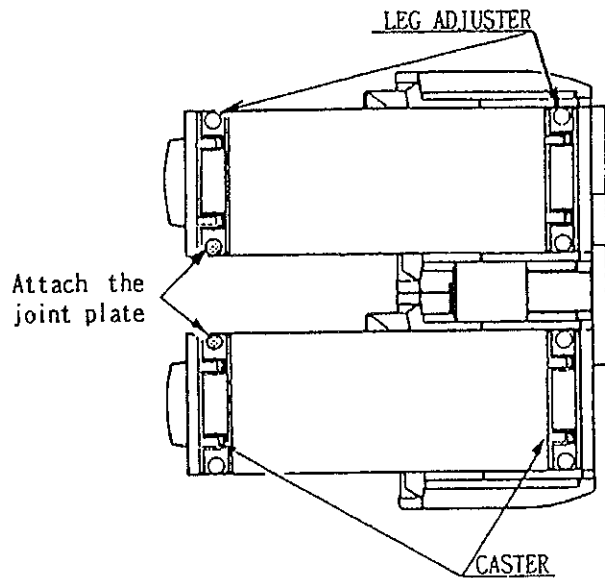
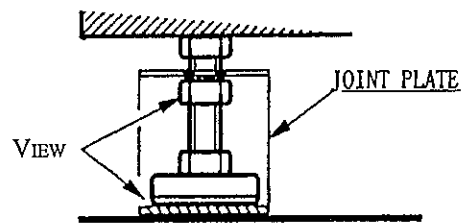

FIGURE 7: CABINET, BOTTOM VIEW
FIGURE 8: LEG LEVELERS, BOTTOM VIEW
2. Adjust the six outboard leg levelers (see Figure 7) on the cabinet by hand so they all make contact with the floor. Continue to adjust levelers until the machine is level and the casters are approximately 5 mm off of the floor (see Figure 8). If the casters are less than 5 mm off of the floor, the game may move during operation and become dangerous.
4. Attach the red joint plate (shipped in Crate 3) to the cabinet's two inner leg levelers (see Figures 7 and 10). Slide the notches in the joint plate over the levelers.
5. Adjust the two inner leg levelers (see Figure 7) on the cabinet by hand so they both make contact with the floor. Continue to adjust levelers until the machine is level and the casters are approximately 5 mm off of the floor (see Figure 8). If the casters are less than 5 mm off of the floor, the game may move during operation and become dangerous.
7. Since the cabinet is heavy, retract its leg levelers and roll on its casters (see Figure 7) when moving the machine over the floor. Do not move the assembled cabinet over uneven floors, or up or down steps and stairs. Detach the Left- and Right-side Cabinets from the Cash Box Tower before moving the cabinets over uneven areas.